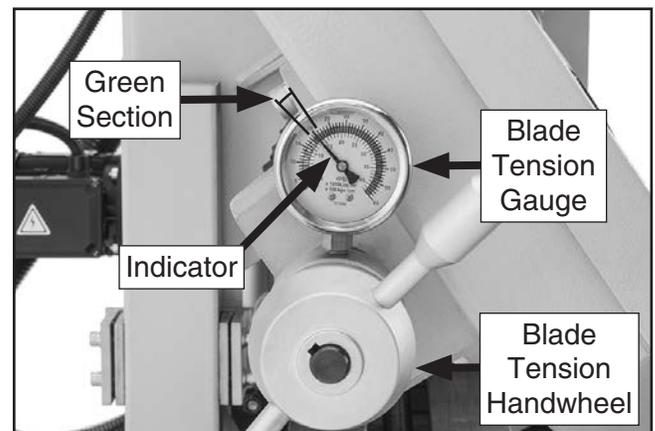

Figure 35. Blade tension properly set.
5. Turn blade tension handwheel (see **Figure 35**) clockwise to tighten blade or counterclockwise to loosen blade.
6. Adjust blade tension handwheel until indicator on blade tension gauge moves into green section, as shown in **Figure 35**.